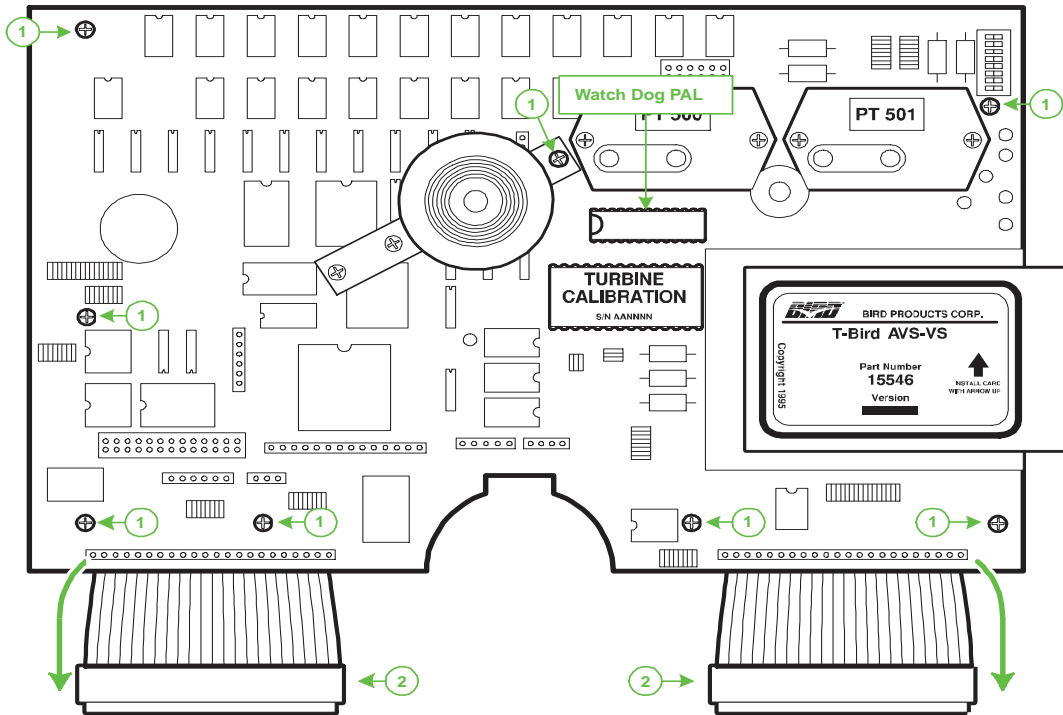

Figure 5-8. Main PCB, Watch Dog PAL
3. Referring to Figure 5-8, locate the Watch Dog PAL on the Main PCB.
- c) Remove the eight (8) screws securing the Main and Display PCBs to the front panel. Note that one (1) mounting screw is on the alarm. (Refer to Figure 5-8, Ref 1.)
- d) Disconnect the two (2) ribbon cables attached to the lower corners of the Main PCBA. (Refer to Figure 5-8, Ref 2.)
- f) Gently disengage the connector in the lower left corner of the of the two (2) PCBs.